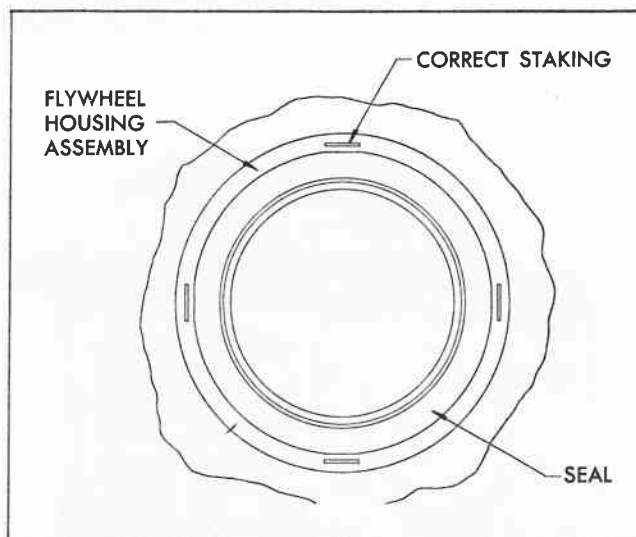

Fig. 11 Correct Staking To Retain Seal in Housing
3. With the front seal secure in the housing, stake the flywheel housing, using a standard screwdriver per Fig. 11.